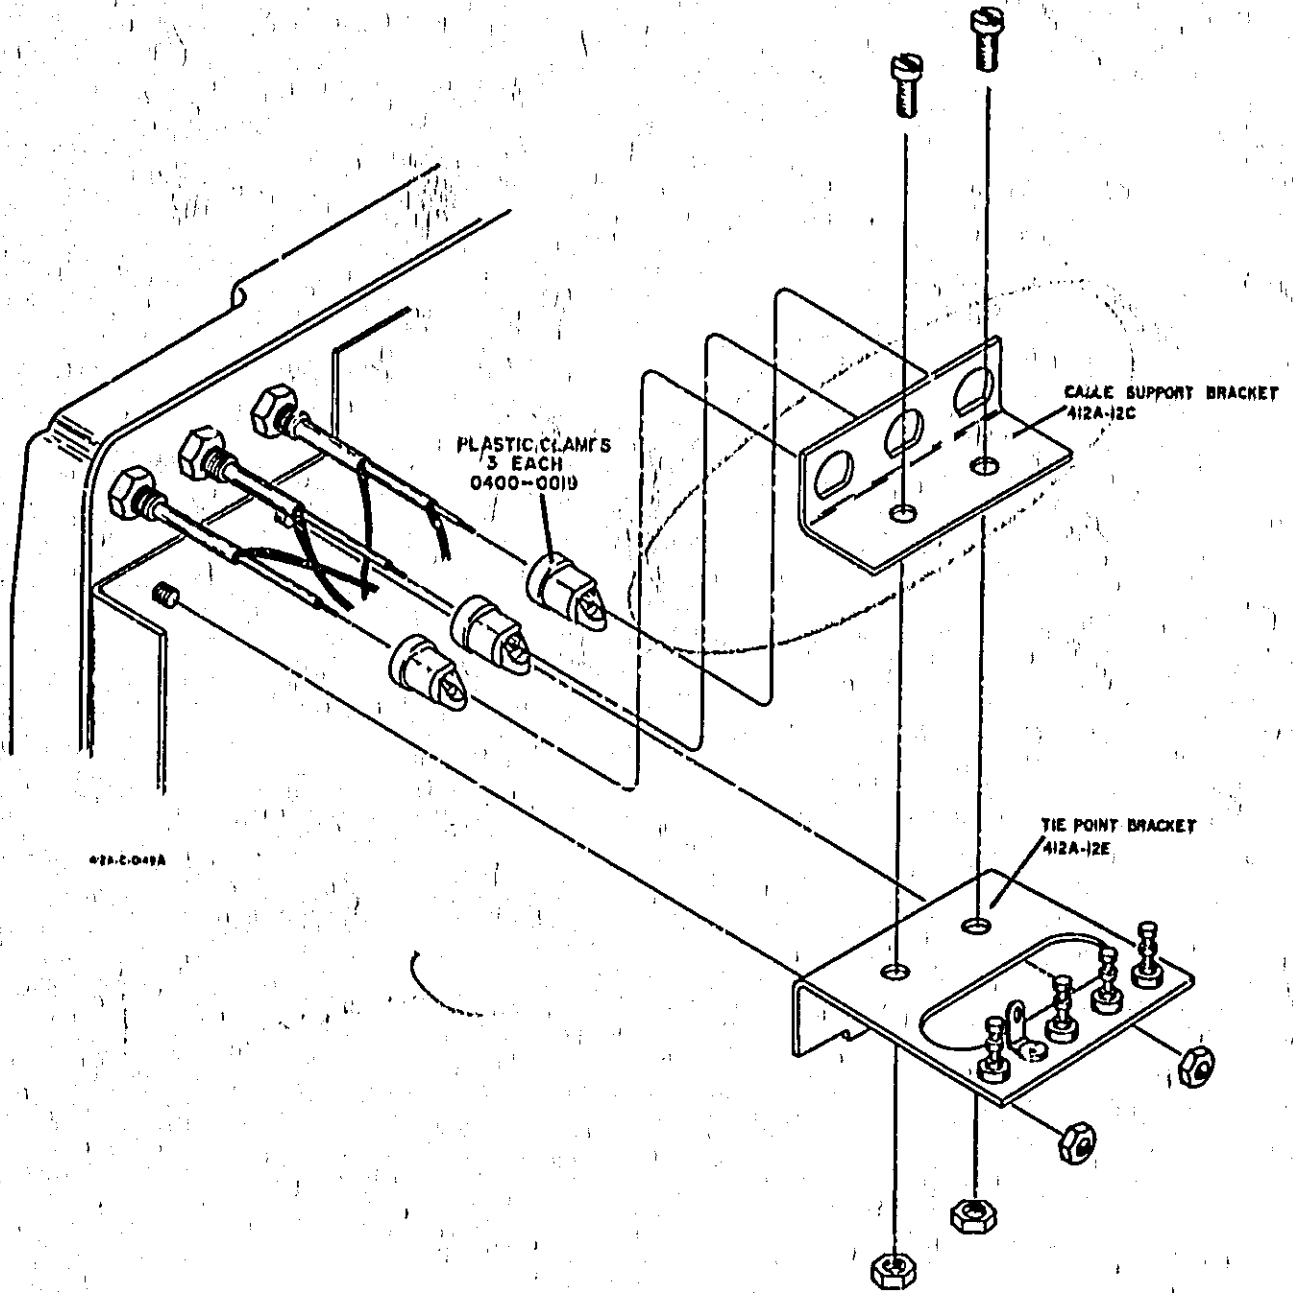

Figure 3
6. Remove old tie point bracket from chassis and discard (see Figure 3).
7. Bolt new tie point bracket to chassis as illustrated in Figure 3.
8. Feed input cables through the front panel. Pull 2-1/2 inches of cable through. Snap the plastic cable clamps onto the input cables as shown in Figure 3. Insure that at least two inches of cable are available to the rear of the plastic clamps. There are two brackets included with this kit; one to be used with cabinet models, the other with rack models. Slip the cable support bracket over the input cables and snap the plastic clamps into the cable support bracket. Refer to Figures 3 and 4.
9. When plastic clamps are firmly seated, bolt cable support bracket to tie point bracket as shown in Figures 3 and 4. Insure that forward face of plastic cable clamp fits firmly against rear end of cable boot/mounting studs as shown in Figures 3 and 4.